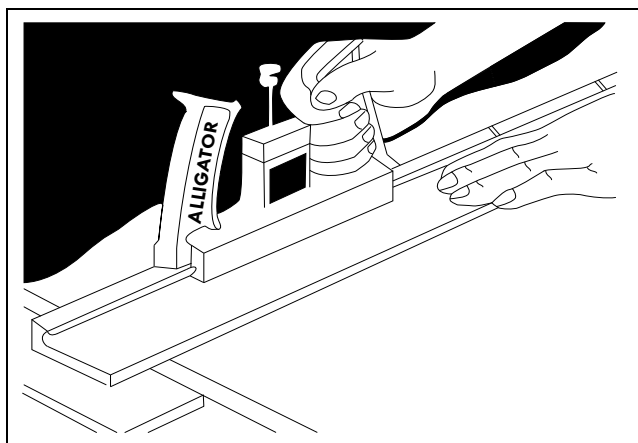

Figure 4D
1. Square belt ends and cut to length. Square both belt ends by marking three (3) center points along belt at 1' to 3' intervals. Draw an average center line using these center points as a guide. Place one leg of a large steel square along the marked center line and position the other leg of the square at the point where the square cut is to be made. Draw a line along the square's leg which is perpendicular to the center line and extend it entirely across the belt. Make sure the cut is clean, square and straight. A cut made along this line will be properly squared with the belt. *(See Figure 4D.)*